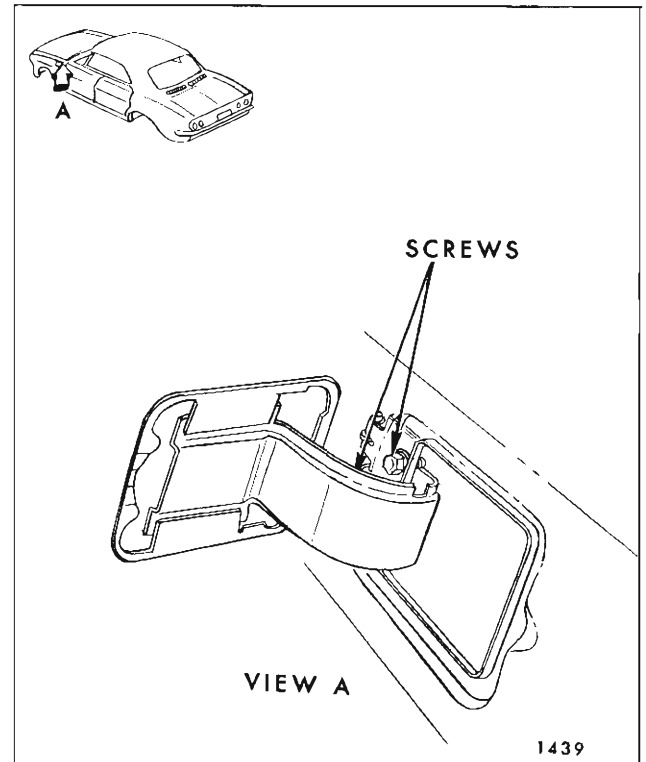

Fig. 5C23—Gas Tank Filler Door
2. Remove bolts (Fig. 5C23) securing hinge to body and remove door assembly.